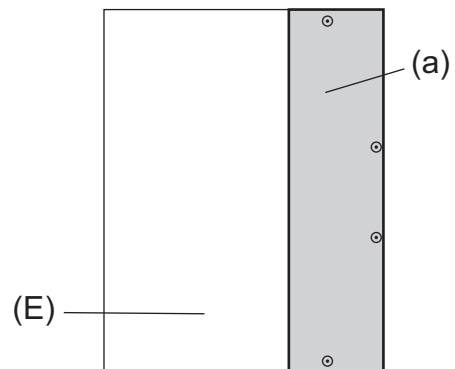

Fig.7
- To avoid dew condensation, use insulated screws in the places marked with circles in Figure 7.